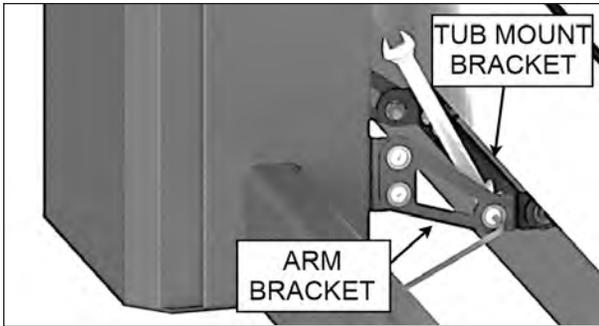

FIGURE 102: LOWER TUB MOUNT BRACKET INSTALLATION
28. Using 1/4-20 x 3/4" button head socket cap screws, the 1/4" washers, the 1/4" lock washers and 1/4-20 hex nuts, screw the lower arms to the tub mount bracket using the provided 5/32" L hex key see Figure 102.